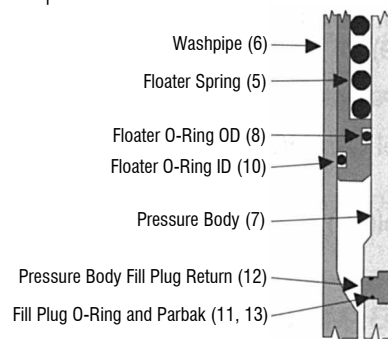

Figure 8-6: Floater O-Ring Installation
6. Floater (9): Install the two O-Rings into the Floater (9), as seen in Figure 8-6. The Floater (9) will be used later in this procedure.